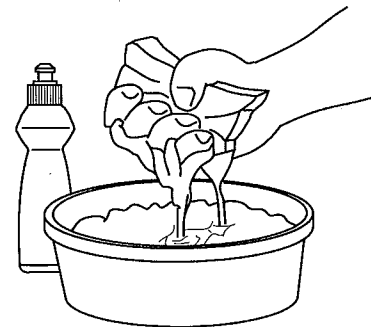

Figure 20
3. Wash air filter in laundry detergent or kerosene (Fig. 20).